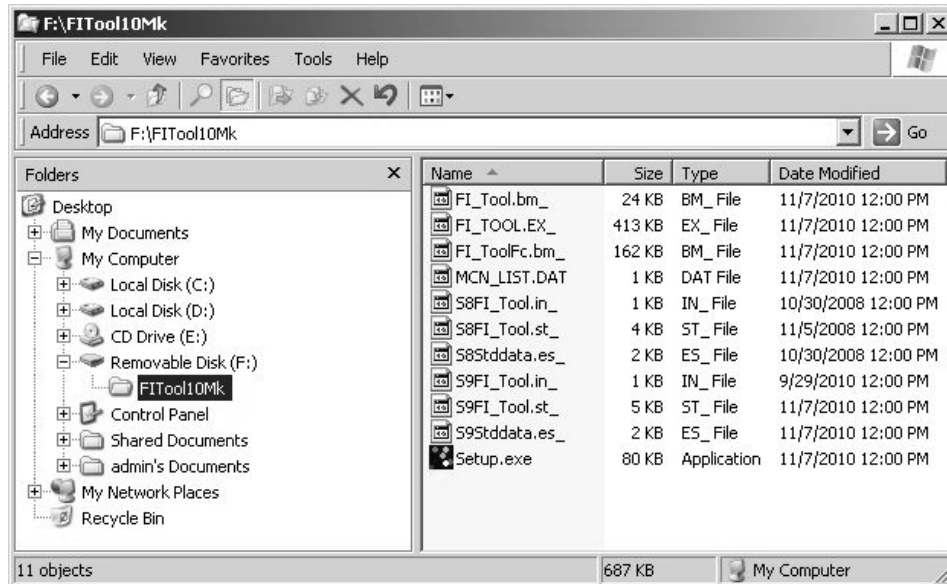
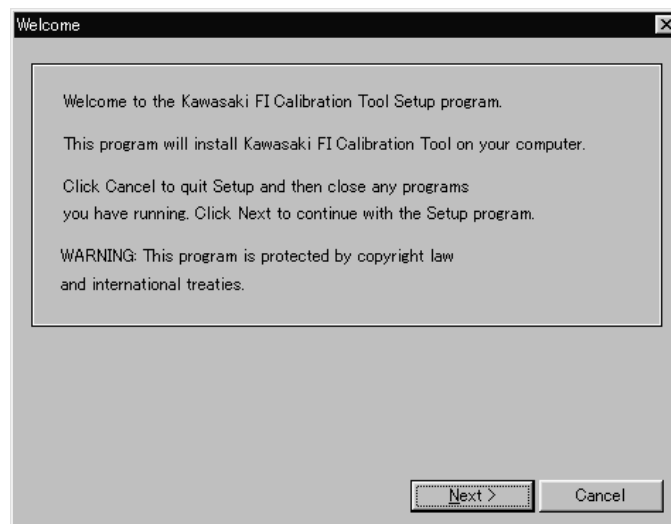

Fig.2 Explore
Fig. 3 Start Up of Installer
- (1) Start up the PC.
- (2) Insert the CD with the FI Tool program installed into the drive.
- (3) Select “Start”, “Program”, and “Explore”. (The program is usually started automatically.)
- (4) Click **FITool10Mk** on the explore to display the screen shown in Fig.2.
- (5) Right-click **FITool10Mk** on the screen shown in Fig.2 and copy and paste it to the appropriate folder. After saving the folder, remove the CD from the drive.
- (6) Execute **Setup.exe** to start the Setup program.
- (7) Then the screen shown in Fig.3 appears.